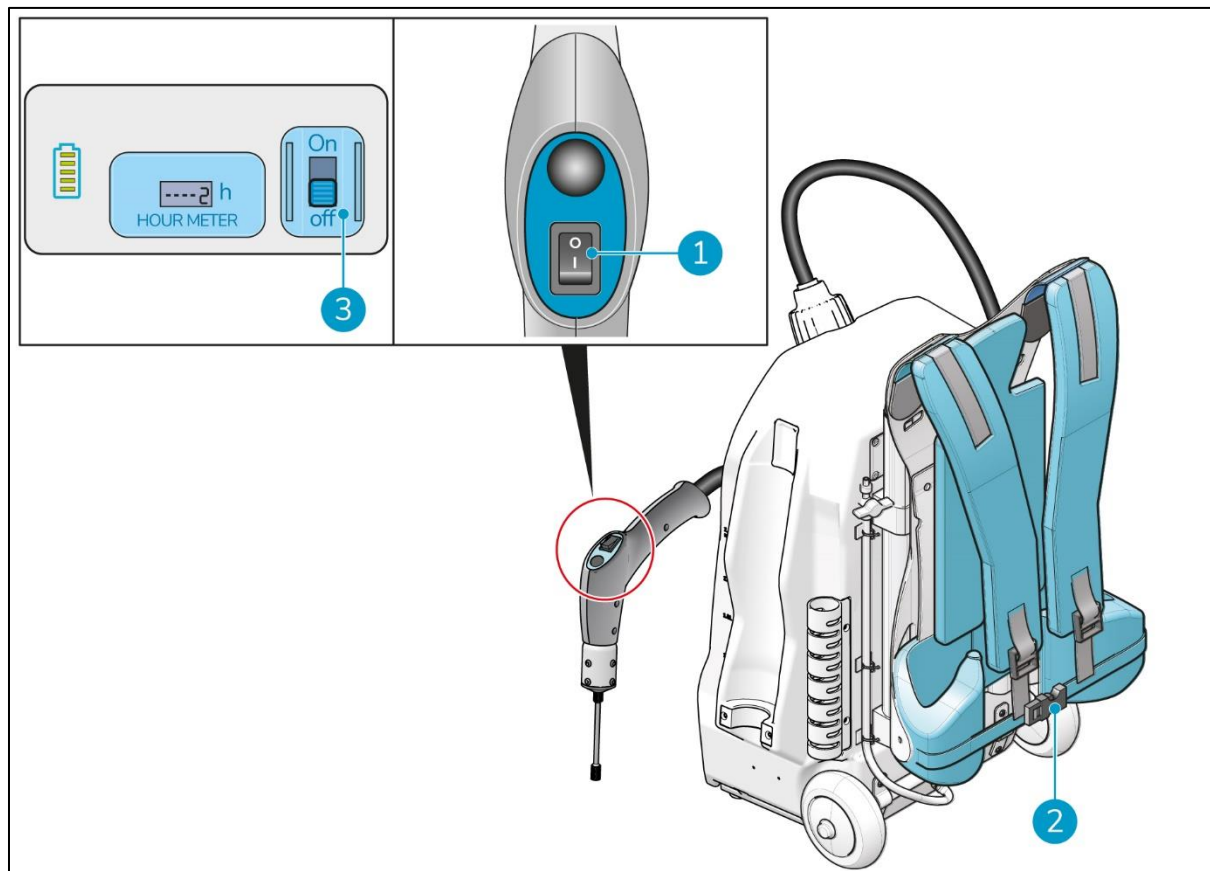

Figure 19
1. Press the ON/OFF switch on the spray gun (Figure 19, pos 1) to stop spraying.
2. Remove the backpack (see section 5.2.1) and close the strap (Figure 19, pos 2) to hold the waistband together.
3. Press the ON/OFF switch (Figure 19, pos 3) to turn off the i-cover® 2.5.
3. Turn on the i-cover® 2.5 using the ON/OFF switch (Figure 19, pos 3).
7. Press the ON/OFF button on the body of i-cover 2.5 (Figure 19, pos 3) to turn it off.